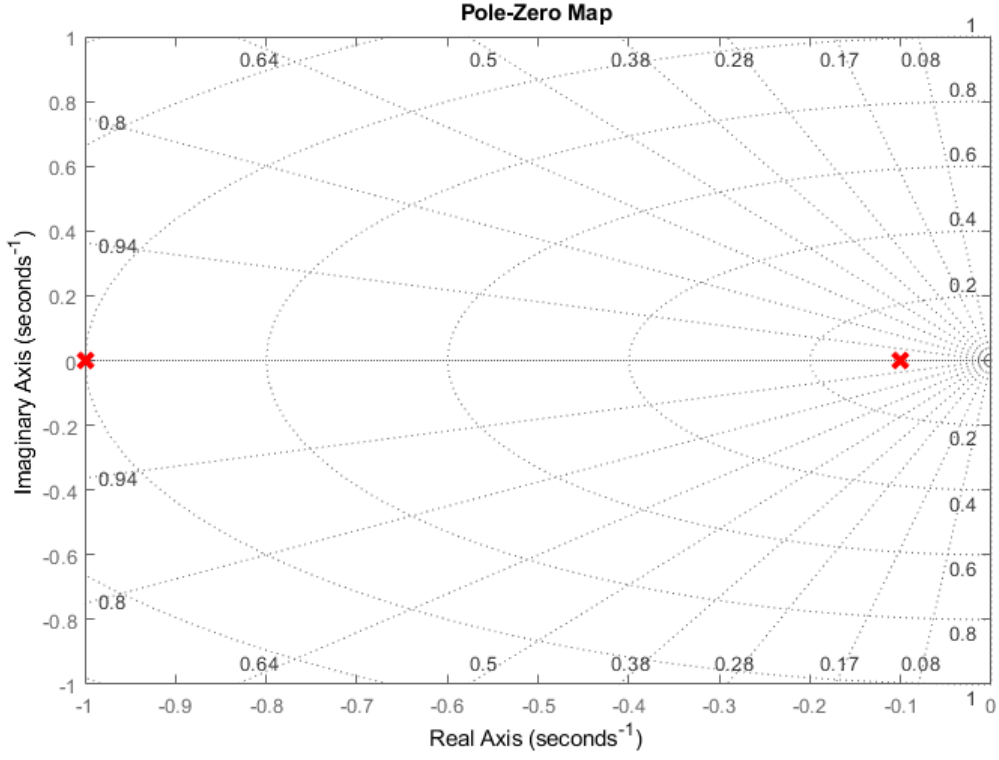

Figure 2: Pole-Zero plot for the Bare( $G_1$ ) and Sheath( $G_2$ ) Thermocouple Models
5. Pole-Zero plot for the bare( $G_1$ ) and sheath( $G_2$ ) thermocouple models can be seen at *Figure 2*